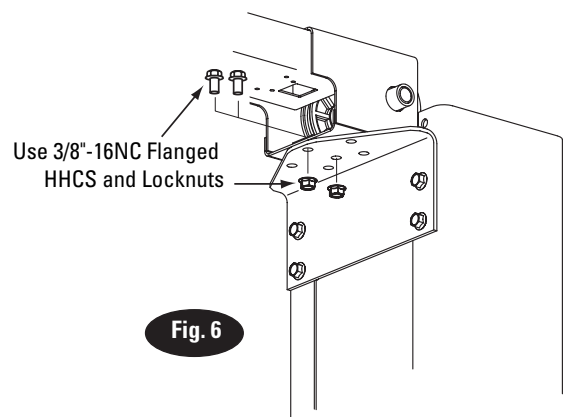

Fig. 6
8. Overhead Installation: Install overhead assembly to Mounting Bracket with (2) 3/8"-16NC x 3/4" Flanged HHCS, (2) 3/8"-16NC Flanged Locknut, and (2) 3/8" star lockwashers, Fig. 6. Use middle holes for SPO9/SPO10 and outside holes (marked L for Left and R for Right) for SPOA7/SPOA9/SPOA10NB/SPOA10. Tighten bolts at center of overhead assembly.